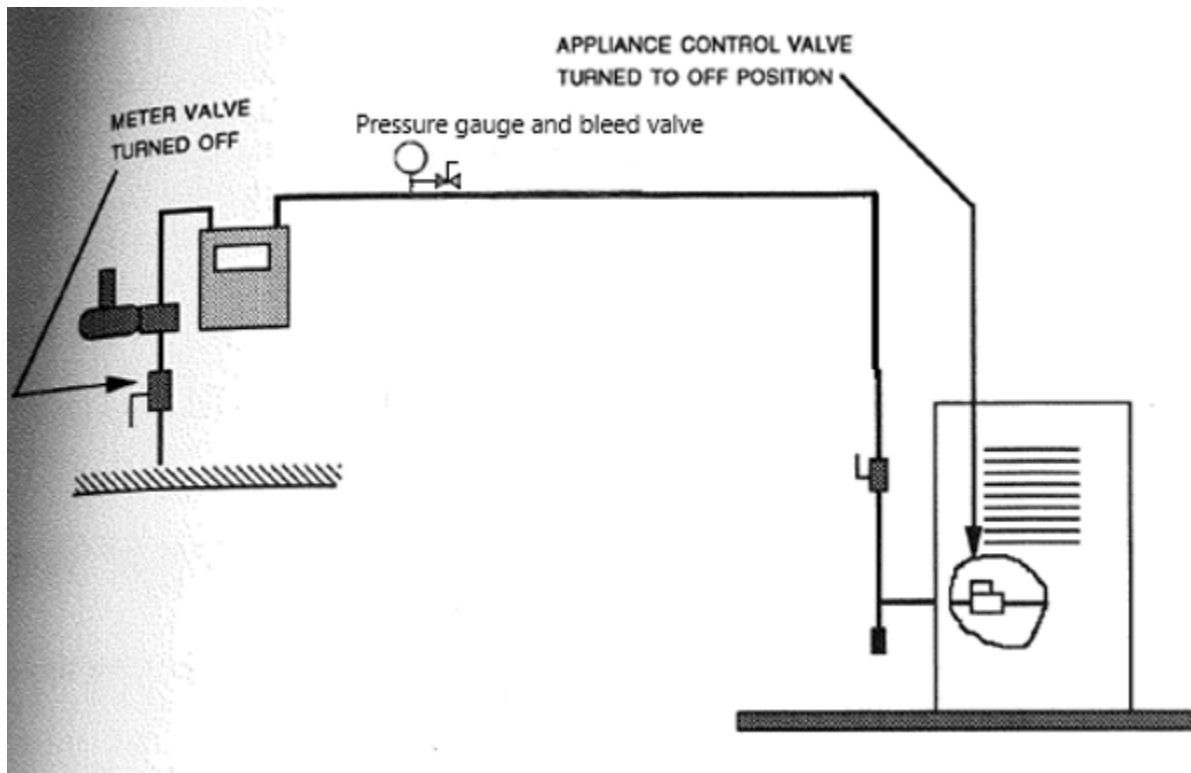

Figure 4. Stage 2 pressure test
After the gas appliances are installed, perform the Stage 2 test (Figure 4):
The best way to search is by using a bubble leak detector solution (aka soap test). A leak will cause the solution to create bubbles (Figure 4) at the joint or fitting. Specially designed bubble leak detector solutions that are made for this purpose are recommended. They have better coating and bubbling characteristics than dish detergent and are non-corrosive. Sometimes the location of the leak may be obvious, but other times it will not (Figure 5). In those cases, you will need to cover as many of the fitting joints with the solution as possible to locate the potential leak(s). Be aware of the test pressure as you may need to add additional pressure to the lines to make up for leak loss.
- Figure 4. “Stage 2 pressure test” by Rod Lidstone is licensed under a CC BY-NC-SA licence.